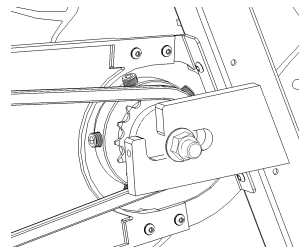

Figure 8A.
3. If the torque is not 45 ~ 50 ft-lbs. using a 5 mm Allen Wrench, give each of the set screws a little clockwise turn. A “little turn” is about 10 degrees. (Figure 8A & 8B)